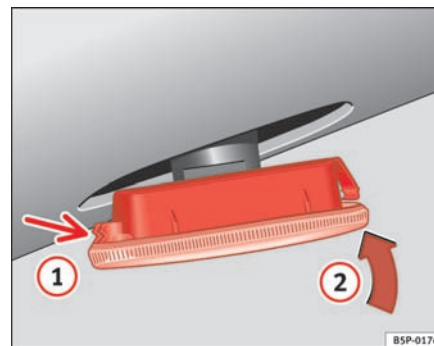

Fig. 144 Side indicators
- First fit the indicator in the opening in the chassis, fastening the tabs ① ⇒ page 222, fig. 144, and then fit in the lamp as shown by the arrow ② ⇒ page 222, fig. 144. ■